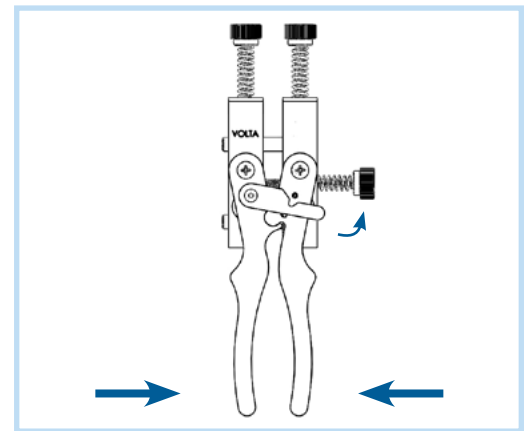

Fig. 10
2. Squeeze the handles together to open the Pliers and lock in open position using the locking bar (12). (Fig. 10).